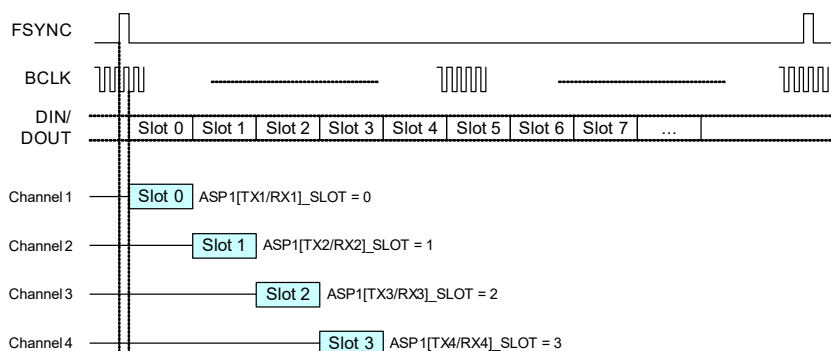
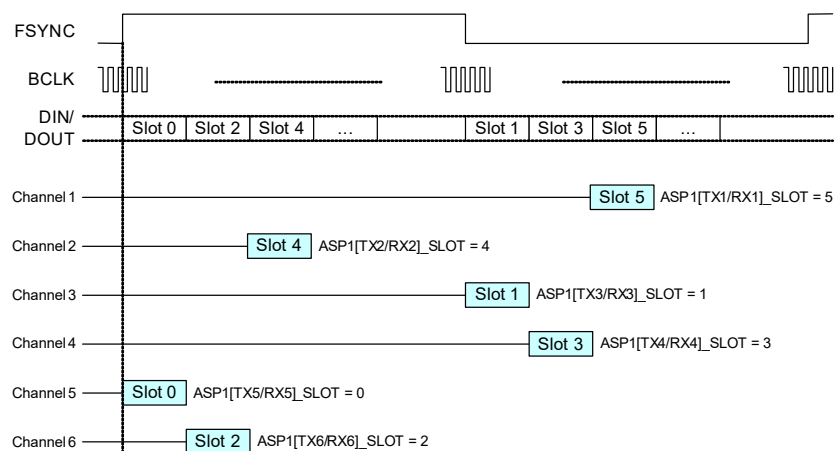

Figure 4-46. TDM 1 Mode Example
Figure 4-48. Left-Justified Example
Examples of the ASP time-slot configurations are shown in Fig. 4-46 through Fig. 4-48.
Fig. 4-46 shows an example of TDM 1 Mode data format. Four enabled audio channels are shown, allocated to time slots 0 through 3.
Fig. 4-48 shows an example of left-justified format. Six enabled channels are shown.
For each ASP input (RX) and ASP output (TX) channel, the position of the audio data sample within the FSYNC frame is configurable. The x_SLOT fields define the time-slot position of the audio sample for the associated audio channel. Valid selections are Slot 0 upwards. The time slots are numbered as shown in Fig. 4-46 through Fig. 4-48.